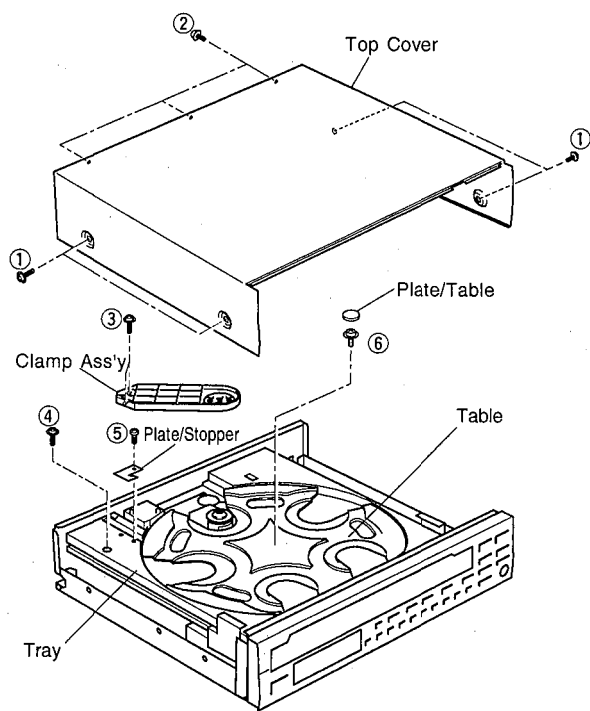

Fig. 1
- a. Remove 4 screws (①) and also 3 screws (②) as shown in Fig. 1.
- a. Remove 2 screws (③) as shown in Fig. 1.
- a. Remove 1 screw (④) as shown in Fig. 1.
- a. Remove 1 screw (⑤) and then remove the Plate/Stopper as shown in Fig. 1.
- b. Remove the Plate/Table as shown in Fig. 1.
- c. Remove 1 screw (⑥) and then take off the Table as shown in Fig. 1.